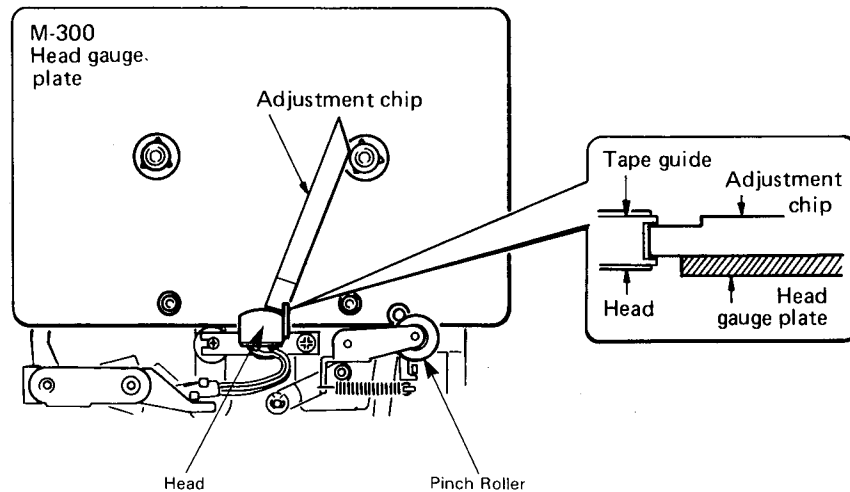

Fig.2
3. Check to make sure that the adjustment chip does not contact the tape guide of the head. (See Fig.2)